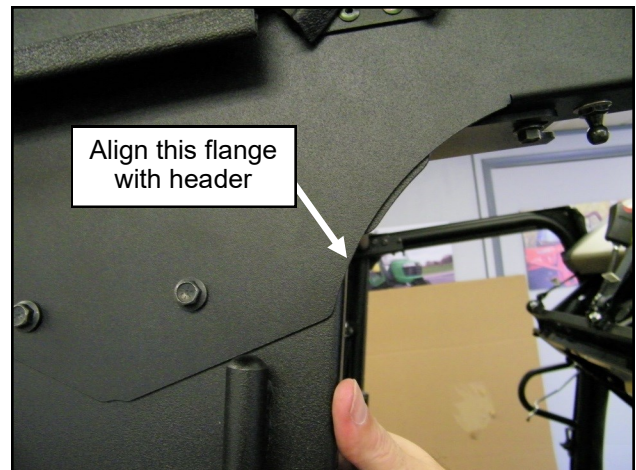

Fig. 12.3 (B-panel alignment)
**12.3** Align the B-pillar upper rear flange flush to the side header per figure 12.3 and tighten the (5) bolts for each B-pillar to the side header.